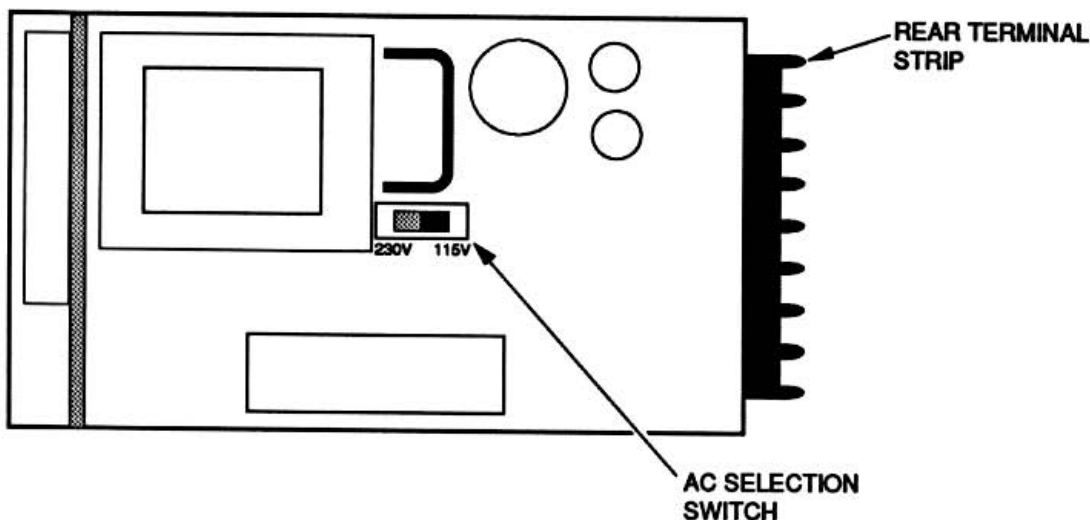

Figure 2. 115/230 Vac Selection Switch Location (Main PCB)
Figure 2 shows the location of the ac selection switch on the Main PCB. The 115V and 230V positions are marked on the PCB. Simply slide the switch to the desired position. Once the selection is made, the electronics may be slid back into the housing.
3. Set ac power selection switch to required setting. See figure 2.